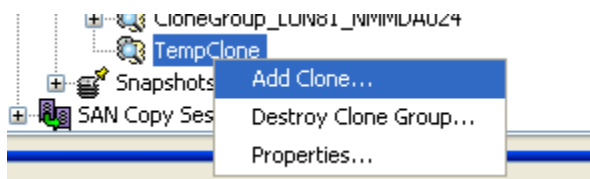

Figure 15 – Clone Selection
7. Go to the “SnapView” section in Navisphere Management GUI and right click on “Add Clone” option from the floating menu; see Figure 15.